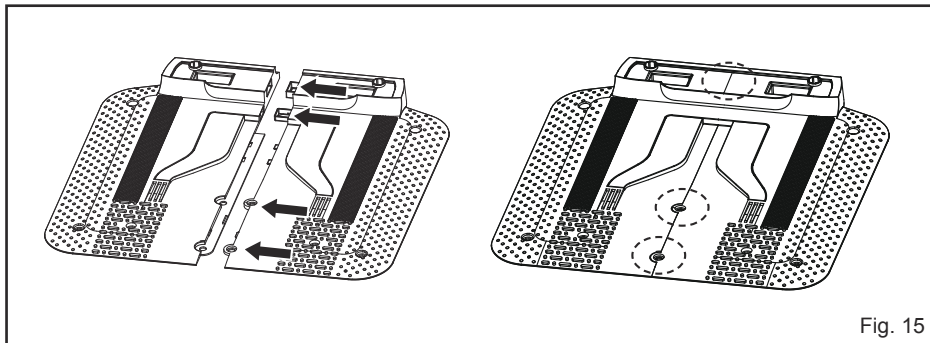

Fig. 15
- Connect the two base parts of the base station as shown. Ensure they click together firmly (Fig. 15).